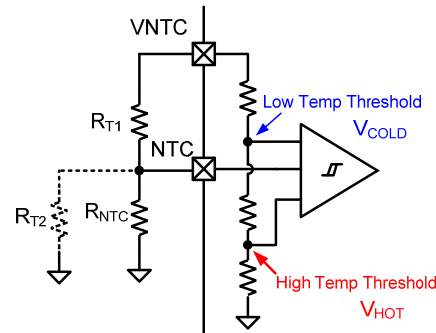

Figure 16: NTC Function Block
Figure 16 shows an internal resistor divider reference circuit that limits both the high and low temperature thresholds at V_{HOT} and V_{COLD} , respectively. For a given NTC thermistor, select an appropriate R_{T1} and R_{T2} value to set the NTC window using Equation (25) and Equation (26):
Equation (26), use V_{COLD} and V_{HOT} from the EC table to calculate $R_{T1} = 2.27\text{k}\Omega$ and $R_{T2} = 6.86\text{k}\Omega$ (see Figure 16).